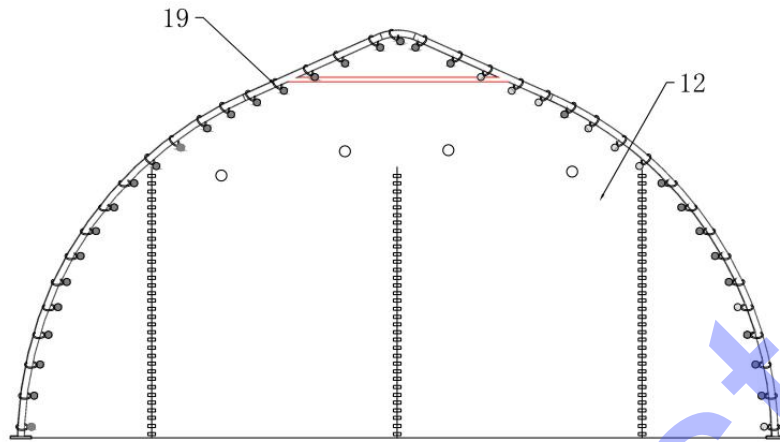

Figure 8
1. Install the front and back door frame as Figure 8.